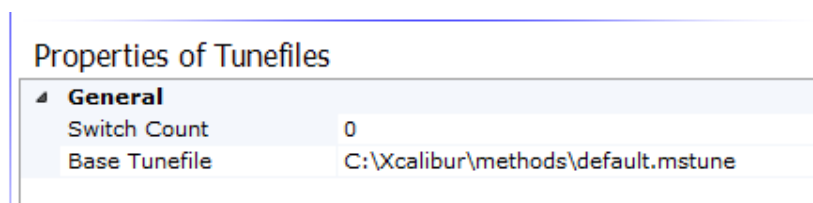

Figure 3-7. Properties of Tunefiles
2. In the Properties of Tunefiles pane, click the button next to the respective box of the Base Tunefile or New Tunefile parameter and browse for the new tune method file. See Figure 3-7. Select the tune files and assign them to the experiment phases.